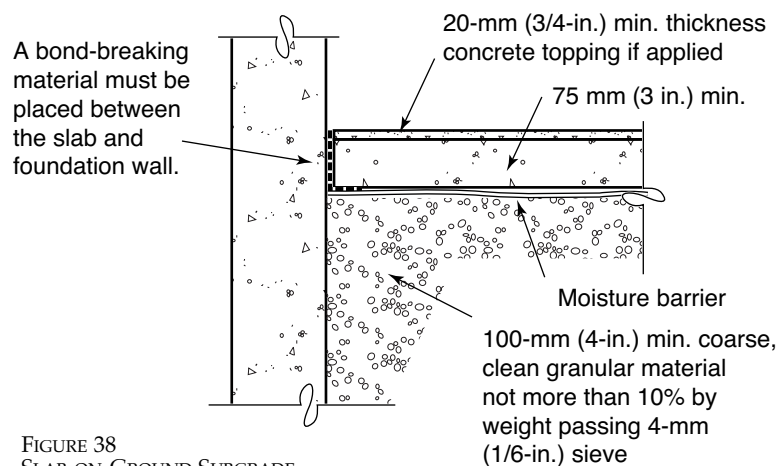

FIGURE 38
- ◆ After compacting the subgrade, install granular fill, and compact it across the entire area. A minimum of 100 mm (4 in.) of coarse, clean, granular fill is required beneath the slab (see Figure 38).